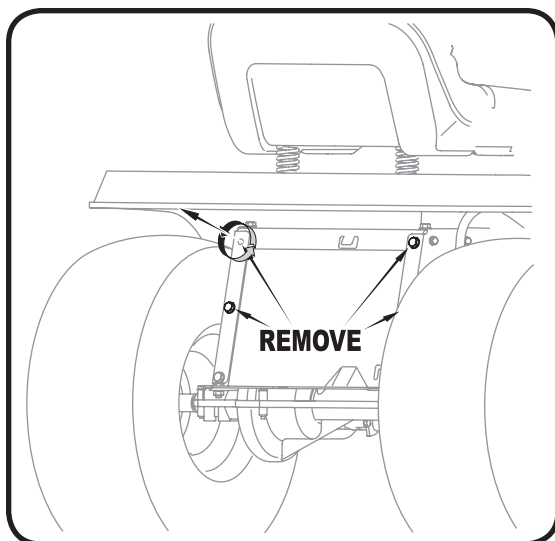

Figure 3-3
1. Remove the top four self-tapping screws from the rear of the lawn tractor. See Fig. 3-3 on the previous page.